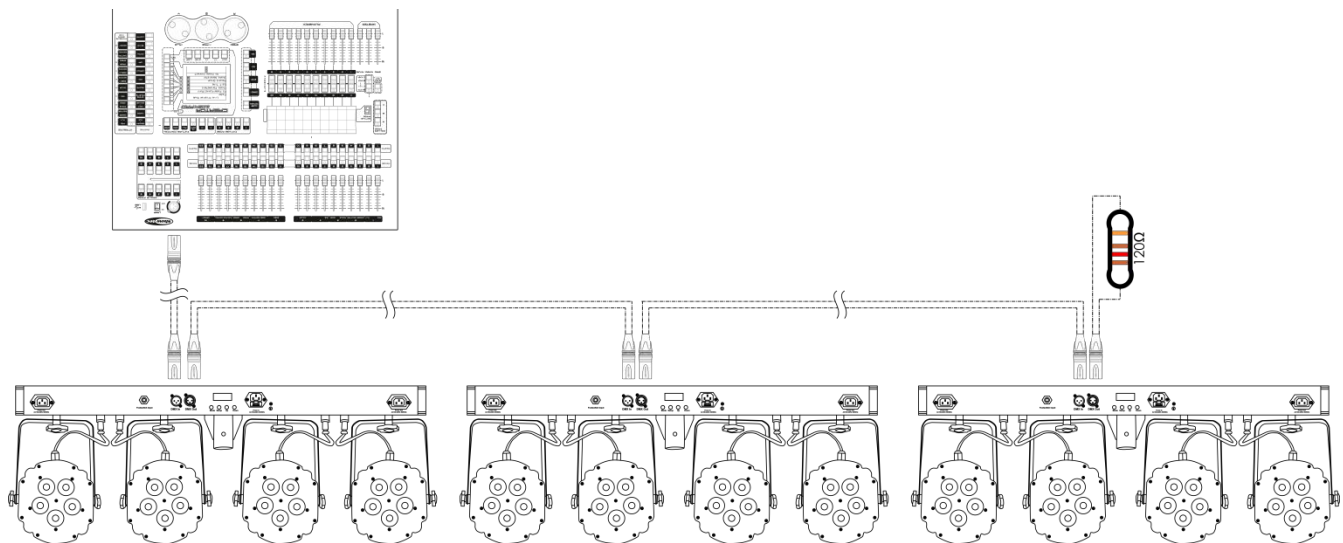

Fig. 03
- 04) Link the units as shown in Fig. 03, Connect a DMX signal cable from the first unit's DMX "out" socket to the second unit's "in" socket. Repeat this process to link the second and third units.